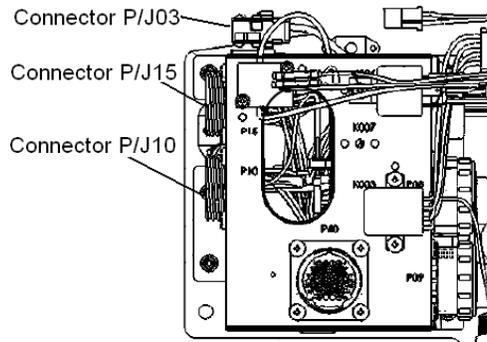

Figure 31-7 Left Hand Side of the Power Distribution Harness Assembly
4. Connect P03, P10, and P15 to their mating connectors on the power distribution bracket. See Figure 31-7 for location of P/J03, P/J10, and P/J15.